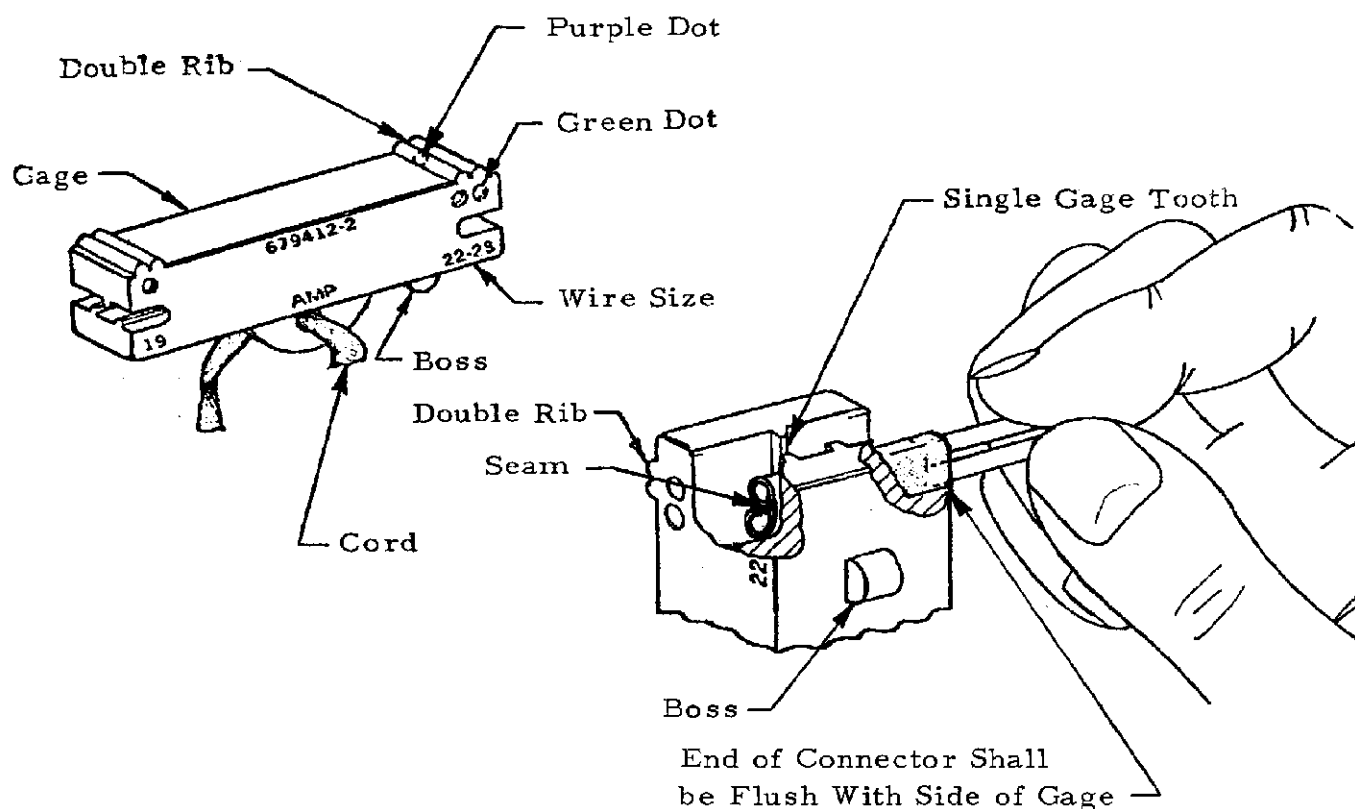

Figure 5
- A. Crimp height shall be checked using AMP gage PN 679412-2 supplied with each tool and measured as indicated in Figure 5. This gage is available from AMP Incorporated by ordering kit PN 229230-1, which is gage PN 679412-2 with a cord attached.
- (1) Select gage end with green and purple color dots that match connector color (green/amber or purple/amber connector) located in end with boss.